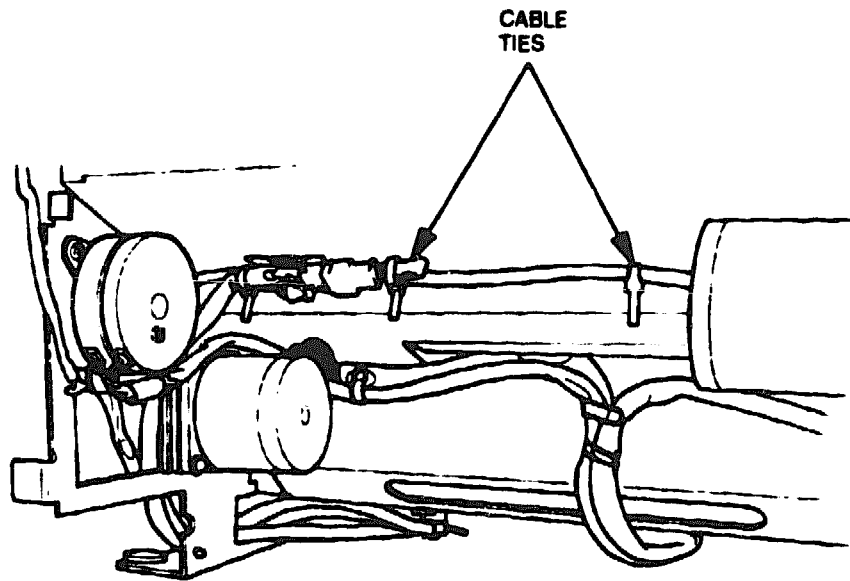

Figure 6-83 Cut Sheet Guide Base Frame Cable Ties
4. Remove the cable from the two cable ties on the cut sheet guide base frame (see Figure 6-83).